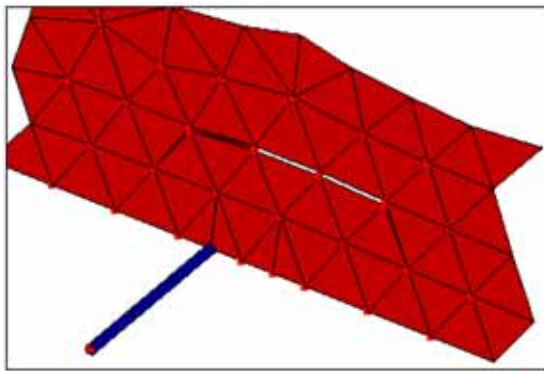

Figure 31: Connectivity diagnostic, runner is not connected to the part
- The diagnostic display shows that the runner and part are not connected because the part is red and the runner is blue. Refer to Figure 31.